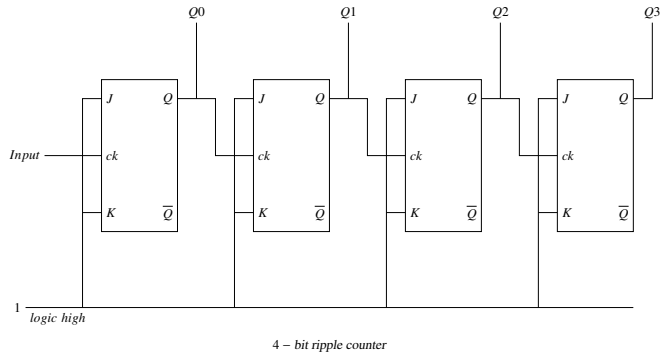

Fig. 5.20
20. Consider a 4-bit counter constructed out of four flip-flops. It is formed by connecting the  $J$  and  $K$  inputs to logic high and feeding the  $Q$  output to the clock input of the following flip-flop (see Fig. 5.20). The input signal to the counter is a series of square pulses and the change of state is triggered by the falling edge. At time  $t=t_0$  the outputs are in logic low state ( $Q_0 = Q_1 = Q_2 = Q_3 = 0$ ). Then at  $t=t_1$ , the logic state of the outputs is (GATE-PH2020,30)